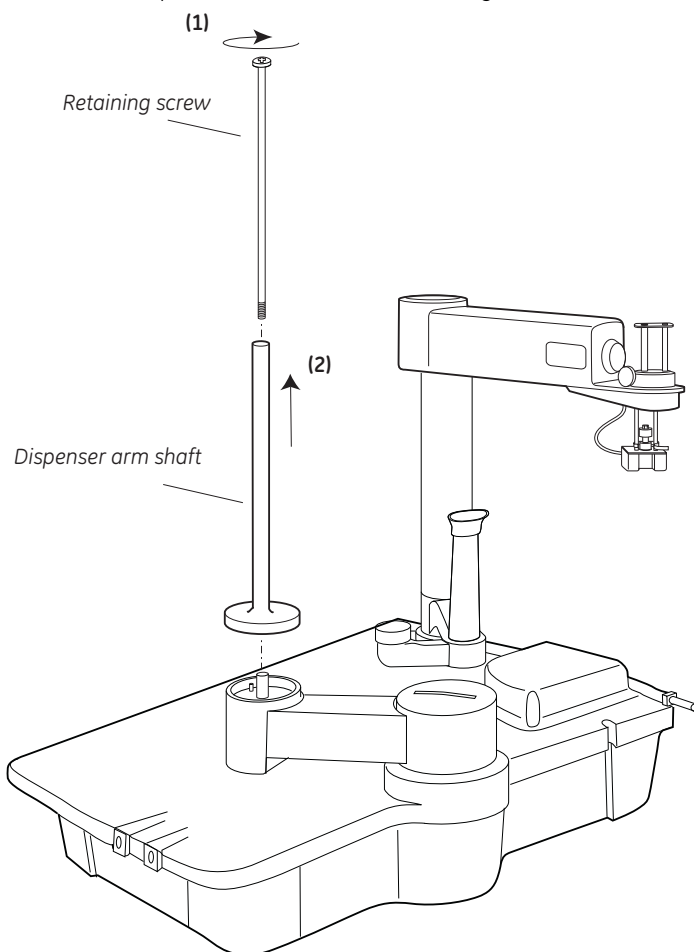

Figure 2-24. Removing the dispenser arm shaft.
- 2 Loosen the finger-tight connector and pull out the capillary (1).
- 3 Loosen the knurled screw (2).
- 4 Remove the dispenser arm (3).
- 5 Push the waste arm to the right (4).
- 6 Lift up and remove the rack (5).
- 7 Remove the dispenser arm shaft as shown in Figure 2-24.